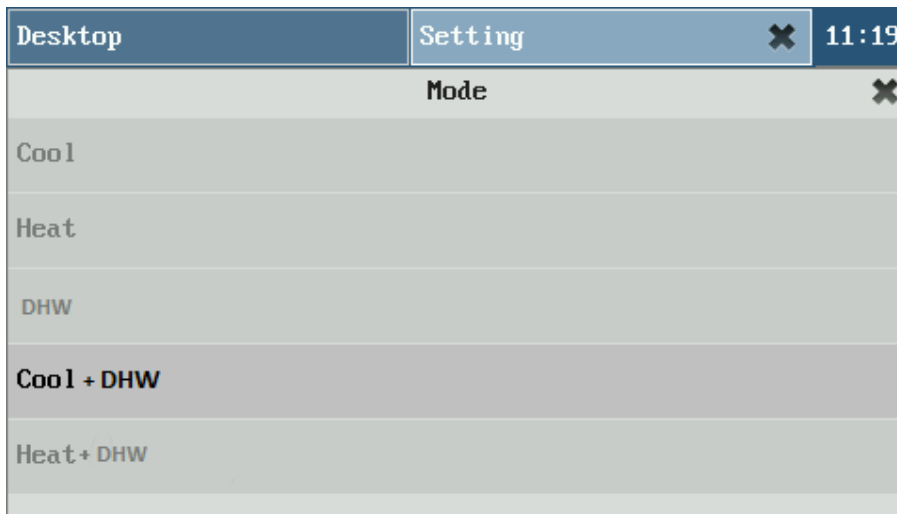

Figure 1-7
1.2 USER PARAMETERS (Figure 1-7)